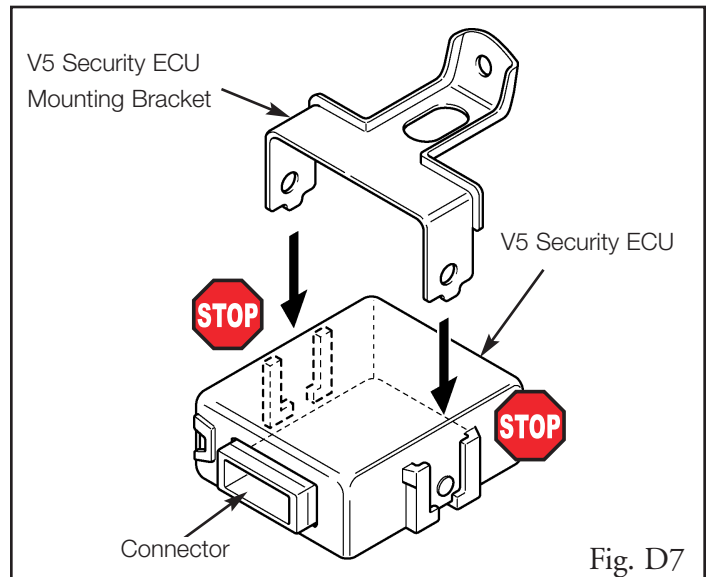

Fig. D7
7. Insert the V5 security ECU mounting bracket into the indicated bracket slot on the V5 security ECU. (Fig. D7)